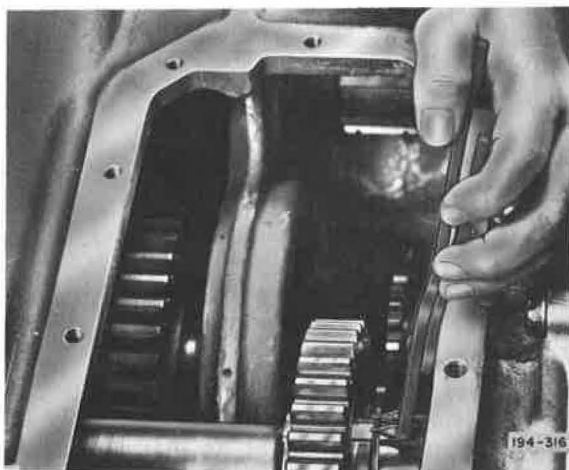

Figure 5-47. Installing P. T. O. Gear Front Snap Ring
12. Position power take-off gear on countershaft splines, then install gear front snap ring in groove provided to retain gear. See Figure 5-47.